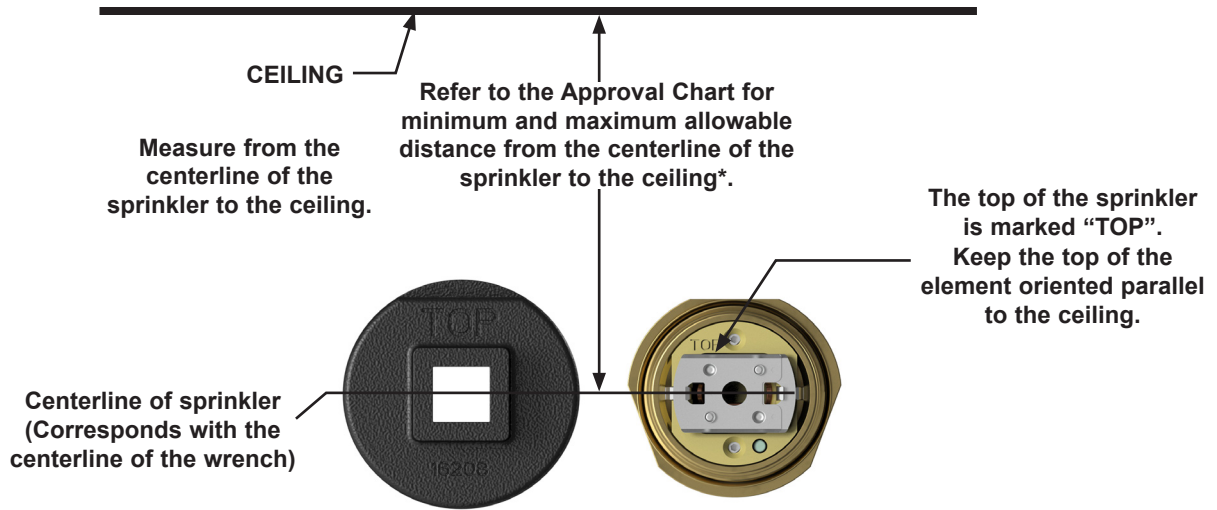

Figure 3: Correct Sprinkler Deflector Orientation
- **THE TOP OF THE SPRINKLER BODY AND THE TOP OF THE INSTALLATION WRENCH ARE MARKED "TOP"**. Orient the top of the sprinkler element parallel with the ceiling as shown in Figure 3.